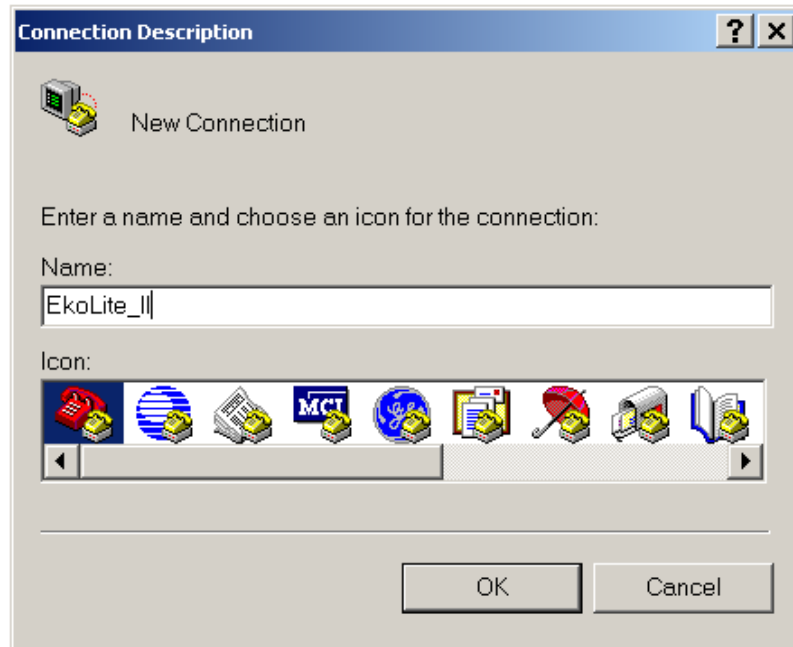

Figure A-1. Connection Description in HyperTerminal
3. A dialog box will ask you to name the session. Use any name you choose. For this example, the name EkoLite II was used. Select the icon showing the two telephones as shown in Figure A-1.